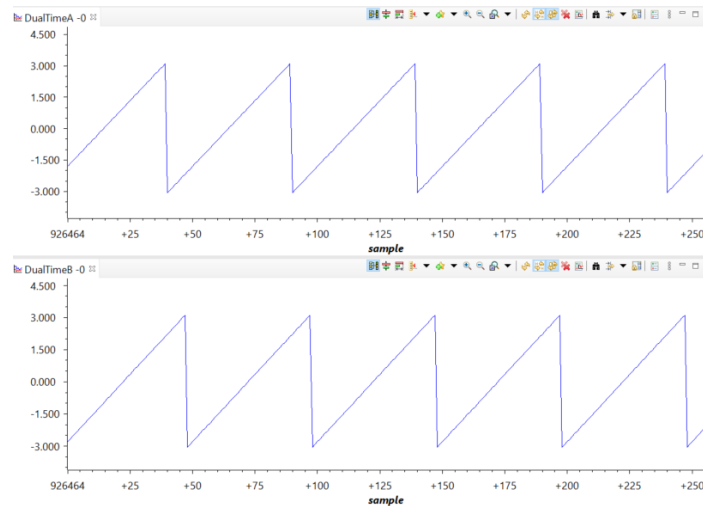

Figure 7: Angles from Angle Generator and QEP module
- b. Change bufferMode to Graph_PH_A_VIEW by setting gGraphVars.bufferMode, and set gStepVars.stepResponse to "1" in Expression Window as shown in Figure 6, this will graph the electrical angle of the angleGen module and that of the QEP module as shown in Figure 7.